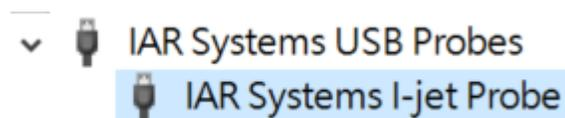

Figure 1 - I-jet Installation Successful
- Figure 1 - I-jet Installation Successful
- c) After successful installation, IAR Systems USB Probes should display under Device Manager as shown in Figure 1